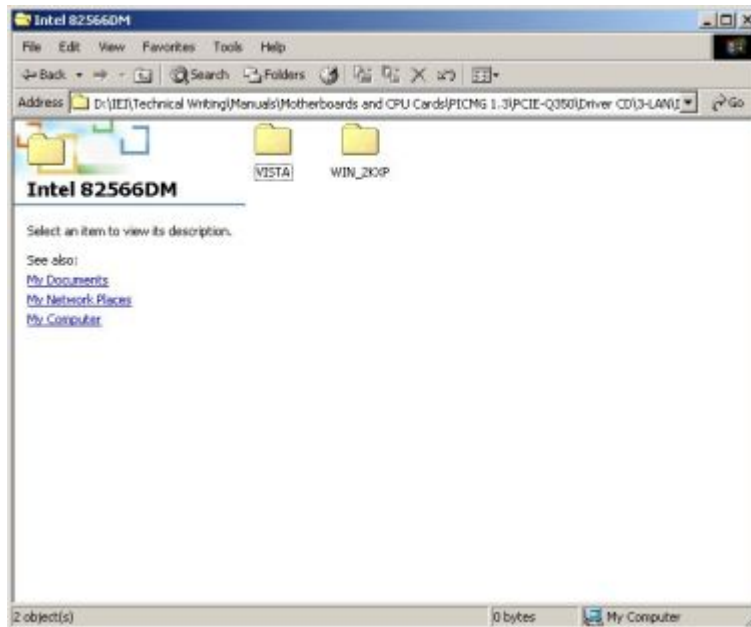

Figure 7-30: Intel® 82573 Operating System
Step 4: The window in **Figure 7-30** appears.
- Step 5:** Select the Operating System in **Figure 7-30**.